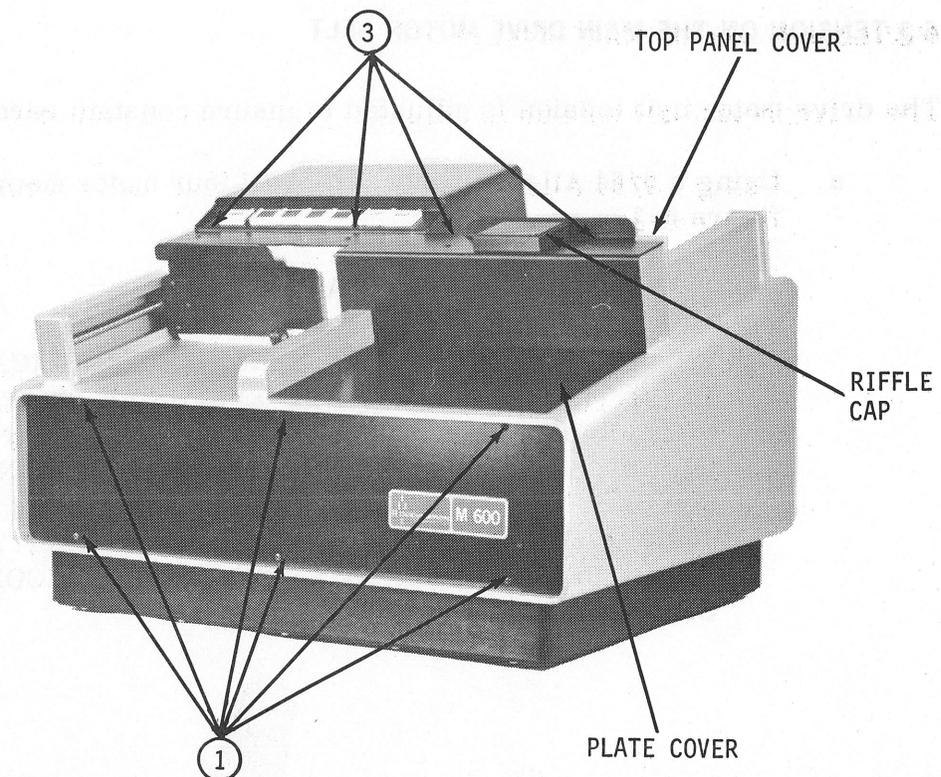

Figure 6-1, Front Panel and Top Cover Removal
- a. Remove six screws (1) which hold front panel and remove panel, figure 6-1.
- b. Remove four screws (3) which hold top cover and remove cover
- a. Using a 3/32 Allen wrench, remove two screws holding riffle air cap, figure 6-1.